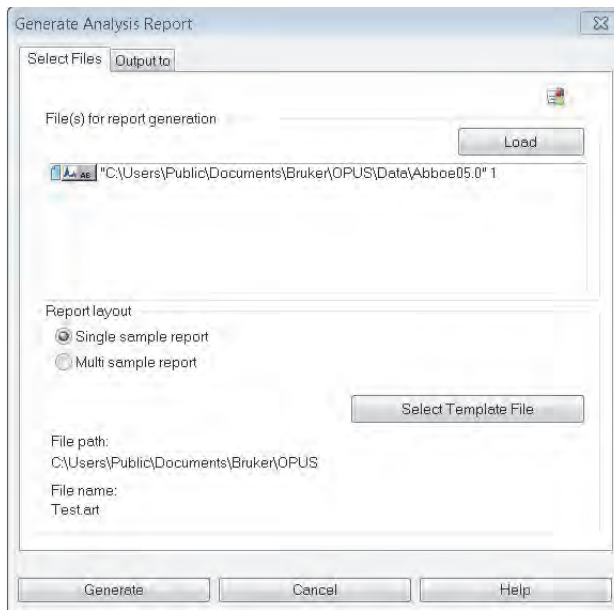

Figure 5.19: Generating analysis report
- *The spectrum file is displayed in the 'File(s) for report generation' list box (figure 5.19).*